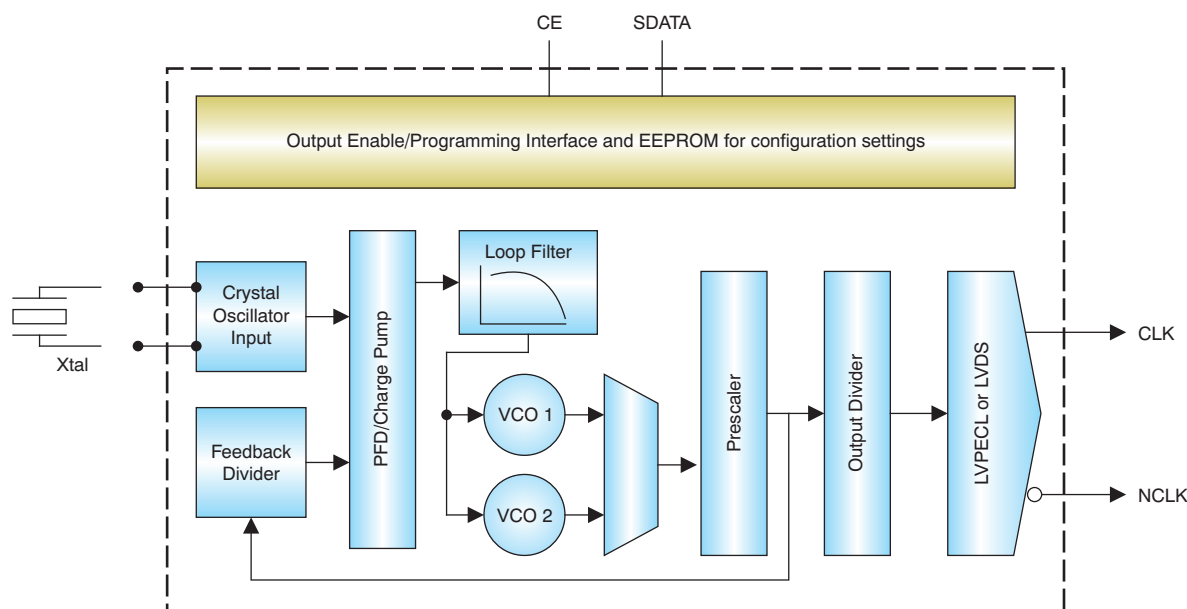

Figure 1. CDCE421 Block Diagram
As shown in Figure 1, the CDCE421 PLL consists of an internal phase frequency detector, a charge pump, an active loop filter, two LC-oscillator-based VCOs, prescalers, and feedback dividers. Through the PLL operation, the VCO output synchronizes with the input reference clock. The VCO output is then sent through the programmable output dividers and is made available in either a differential LVPECL or LVDS output that is also synchronized in phase and frequency with the input reference clock.
Step 1. From Figure 1, it can be inferred that the relationship between the output frequency and the input frequency is represented by Equation 1:
Step 1. From Figure 1, it can be inferred that the relationship between the output frequency and the input frequency is given by Equation 2: